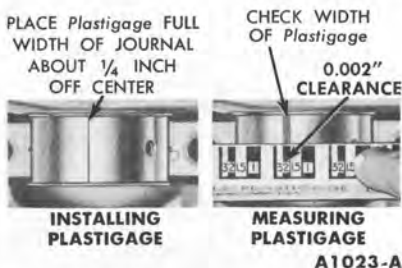

FIG. 74—Installing and Measuring Plastigage—Engine Removed
10. Check the clearance of each main bearing. Place a piece of Plastigage on the crankshaft journal the full width of the journal and about 1/4 inch off center (Fig. 74). Follow steps 11 thru 13 under "Main Bearing Replacement."